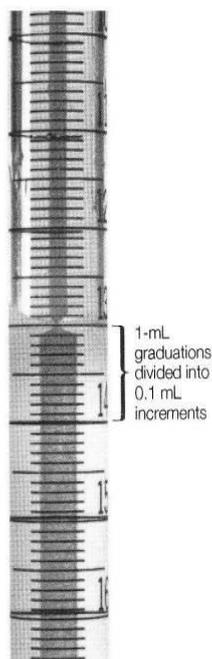

Figure T.16g A 50-mL buret is marked from top to bottom, 0 to 50 mL, with 1-mL graduations divided into 0.1-mL increments.
2. **Preparation of the Titrant.** Close the stopcock. With the aid of a *clean* funnel, fill the buret with the titrant to just above the zero mark. Open the stopcock briefly to release any air bubbles in the tip *and* allow the meniscus of the titrant to go below the uppermost graduation on the buret. Allow 10–15 seconds for the titrant to drain from the wall; **record the volume** (Technique 16A) of titrant in the buret. Note that the graduations on a buret *increase* in value from the top down (Figure T.16g).